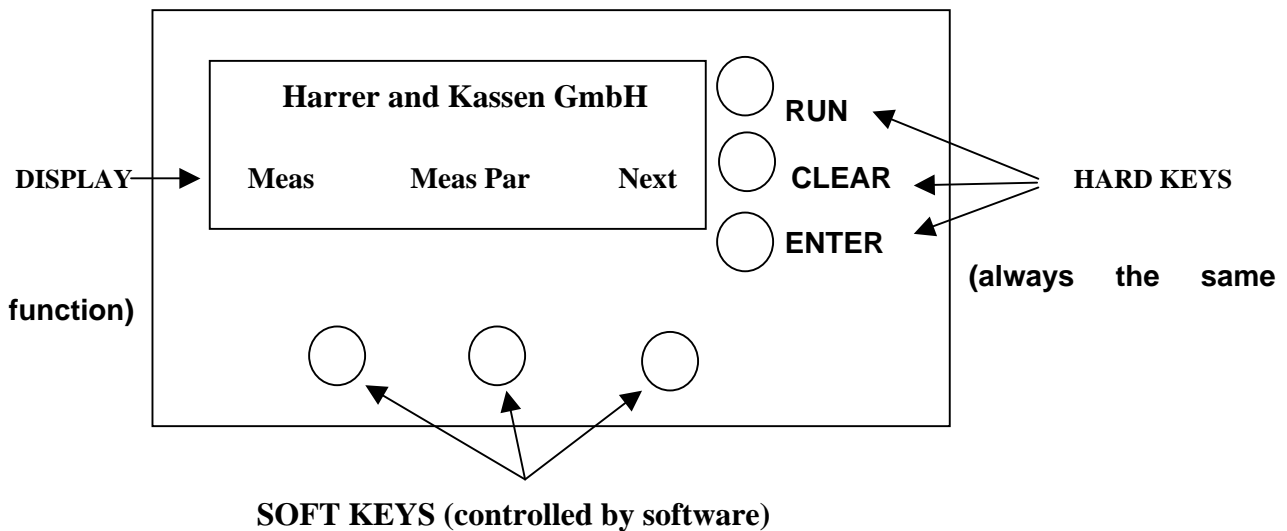

Figure 1 Front Panel of the HK-2
- B. There are several parameters to check and one (1) measurement to make when setting up the HK-2 Microwave System.
- D. The front panel of the HK-2 System looks like Figure 1. There are three (3) Hardware Keys and three (3) Soft Keys. You will use the six (6) buttons to program and operate the Microwave System. In the manual, I will only show the display when showing an example.